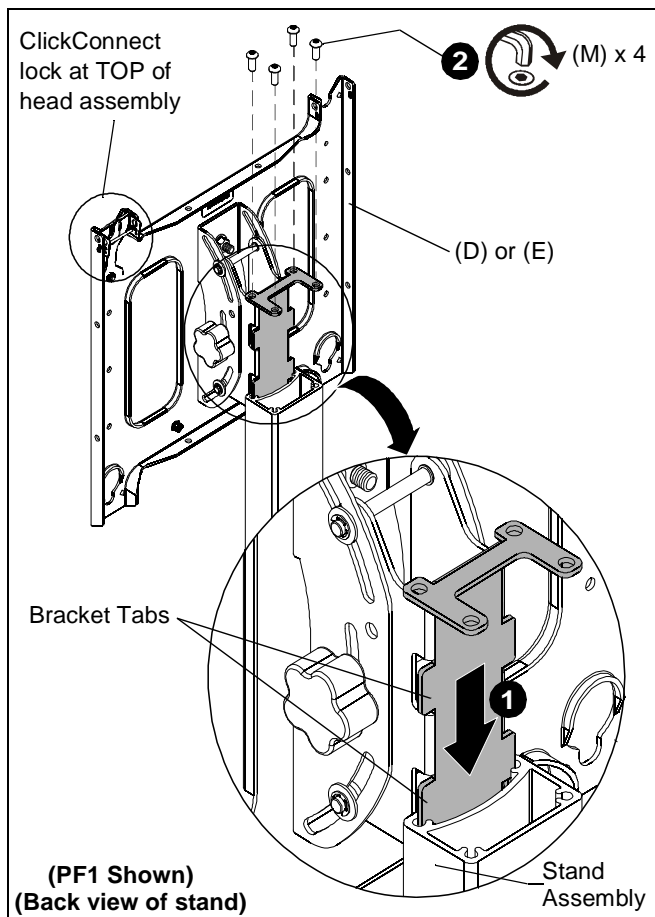

Figure 8
IMPORTANT ! : When attaching head assembly ensure that the ClickConnect lock is at TOP of head assembly, and bracket tabs slide into the stand assembly. (See Figure 8)
1. Slide head assembly (D) or (E) into the stand assembly. (See Figure 8)
2. Attach head assembly to stand using four 5/16-18 x 3/4" button head cap screws (M). (See Figure 8)
IMPORTANT ! : When attaching front head assembly ensure that the ClickConnect lock is at TOP of head assembly, and bracket tabs slide into the stand assembly. (See Figure 8)